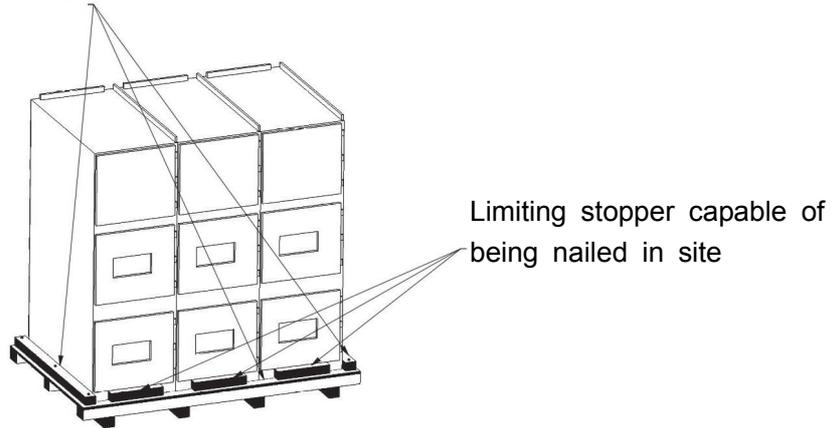

Fig. 6-2 The MVD cabinet body is laid on the wooden pallet
- With respect to the MVD cabinet, lay the pallet at a place convenient for the access of the lifting device and then place a VCI gas phase rustproof bag of a proper size on the pallet surface, afterward, lift the cabinet body stably and lay it on the pallet surface by means of the lifting device. It shall be noted that when lifting and laying the cabinet, the edge distance around the pallet shall be proper and even, as shown in Fig. 6-2. For the lifting position and specific requirements, see the handling instructions of the MVD.